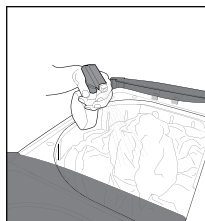
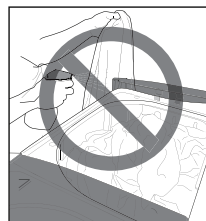

Fig. 1
Fig. 2
Please use "Pre-Wash" Detergent inside the Washing Machine as shown in **Figure 1** and not outside of the Washing Machine as shown in **Figure 2**.
- If there is a sound from the spinner, open the spinner lid then try to lay the laundry evenly (Figure 1)